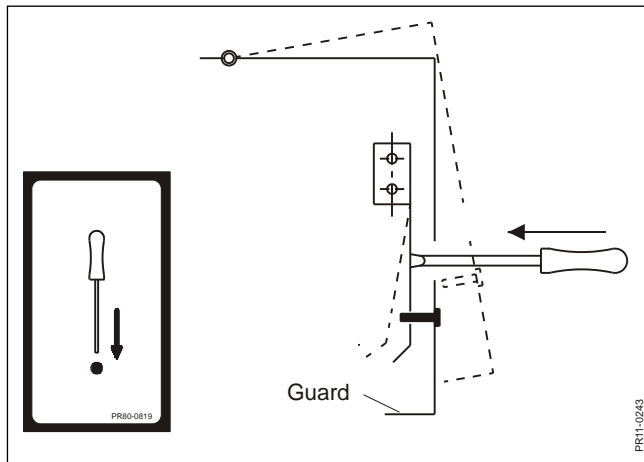

Fig. 6-1
- Fig. 6-1** When maintaining the machine you often need to open or remove guards. For safety reasons all guards have been equipped with a lock. The lock ensures that the guard cannot be opened without using tools. Fig. 6-1 and 6-2 show the two different locking principles and the corresponding transfers which indicate and illustrate the locks on the machine.